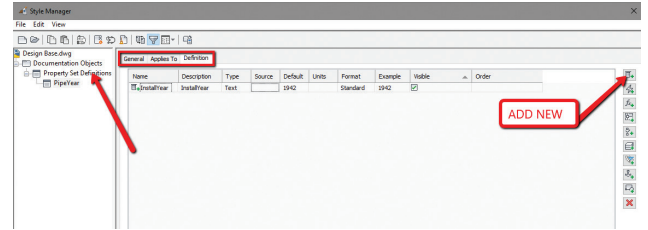

Figure 6
- Right click on Property Set Definition and select NEW. For this example, I will use PipeYear, as I want to label the year installed on my pipes (Figure 6).